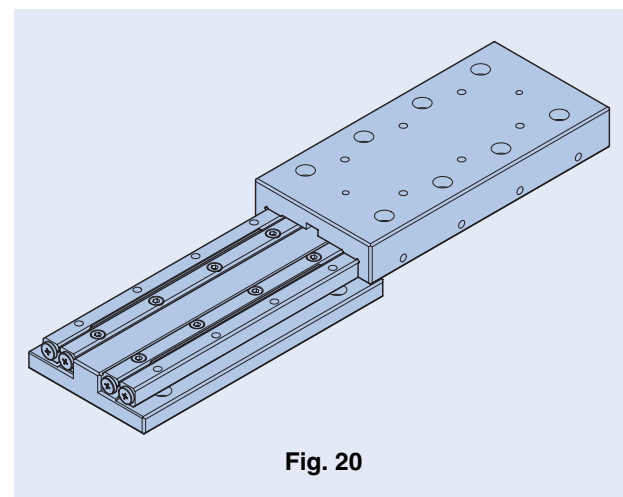

Fig. 20
- Place table to the assembling location holding both ways without shifting. (See Fig. 20)